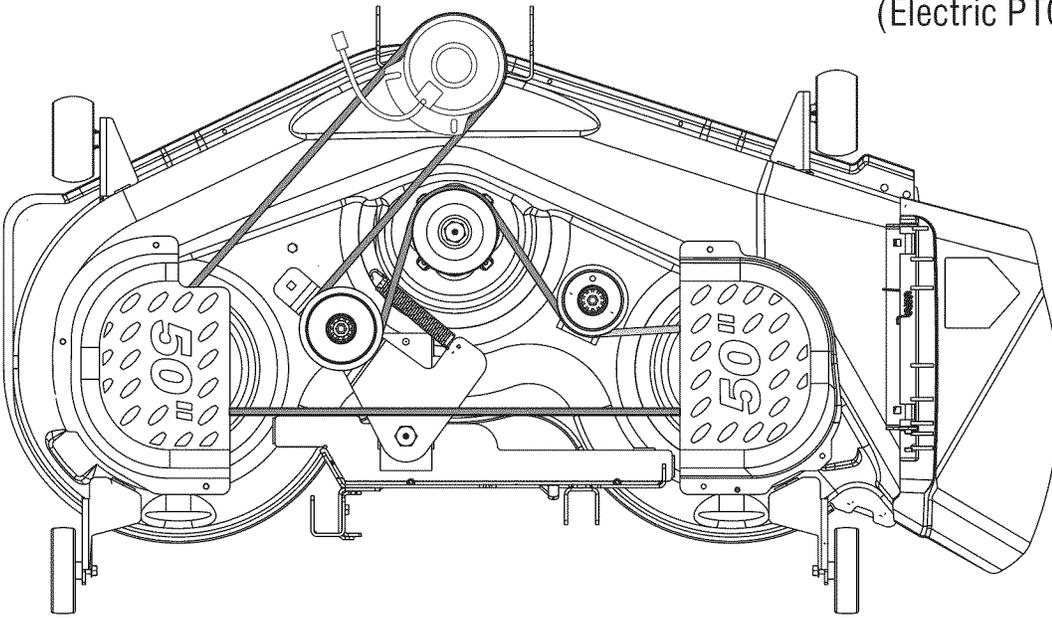

Figure 6-7
8. Route the new belts as shown below in Fig. 6-7 or 6-8.